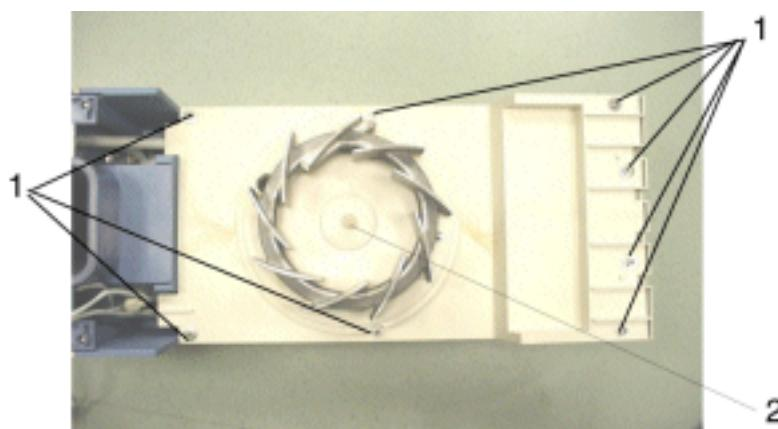

Fig. 182 Front view of the air heater
4. Carefully remove rubber sleeve (2) from shaft of fan motor, see Fig. 182.
5. Remove screws and washers (1), see Fig. 182.